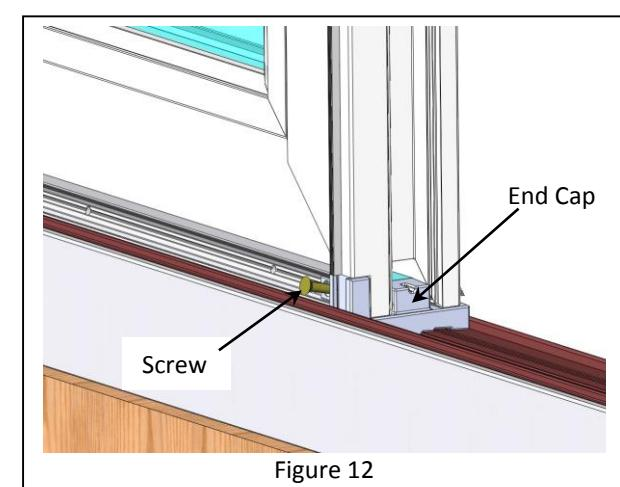
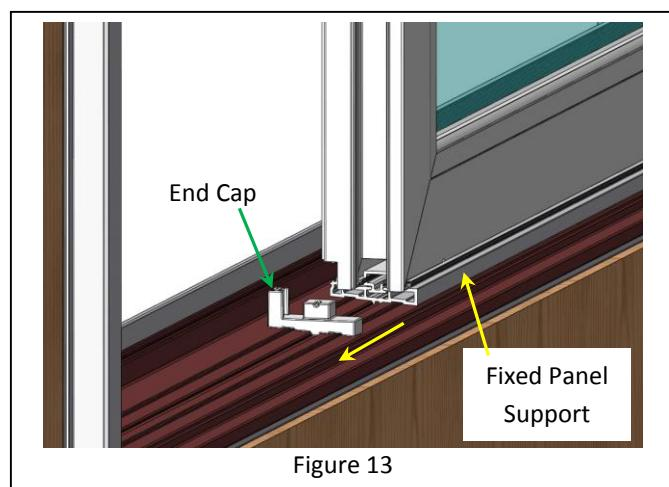

Figure 12
Figure 13
8) Remove the screw that fastens the End Cap to the Fixed Panel Support as shown (Fig. 12). Pull the End Cap out of the Fixed Panel Support in the direction shown in Figure 13. Set the End Cap aside.